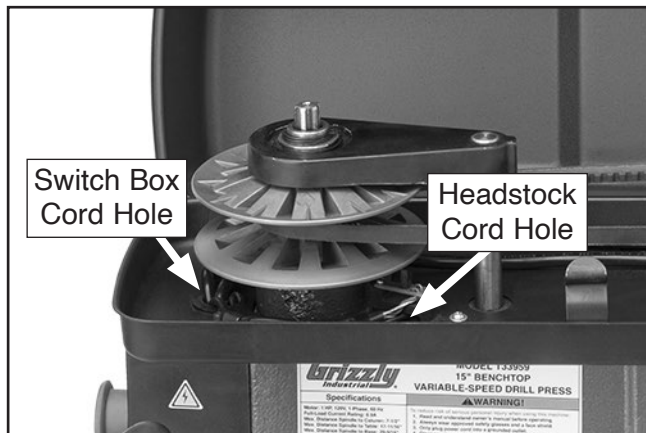

Figure 73. LED and laser module cords fed into headstock and switch box (T33959 shown).
3. Open belt cover and identify which cord is connected to LED by lightly tugging cords fed into headstock (see **Figure 73**).
4. Follow cord to where it is fed into switch box (see **Figure 73**).